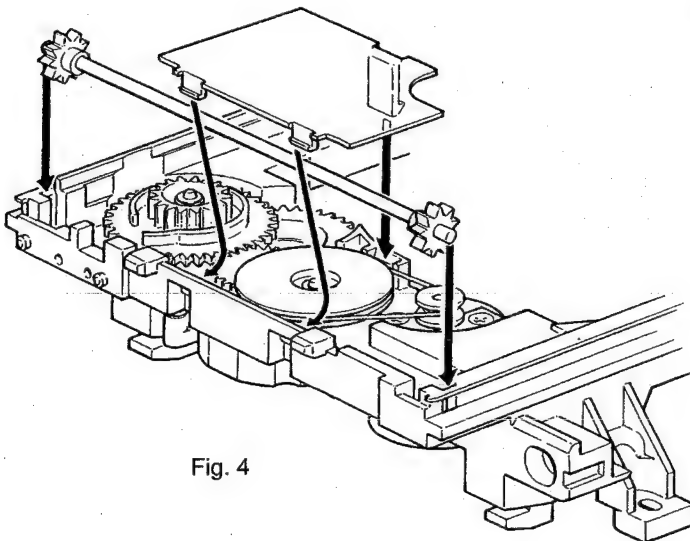

Fig. 4
- f) Mount the pinion guiding assy and the cover as shown in Fig. 4.